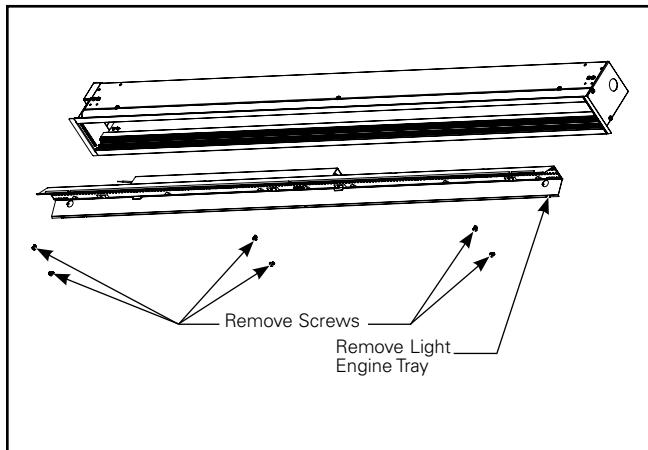

Figure 5.
1. After the lens is removed, the light engine tray must be removed. See Figure 5.